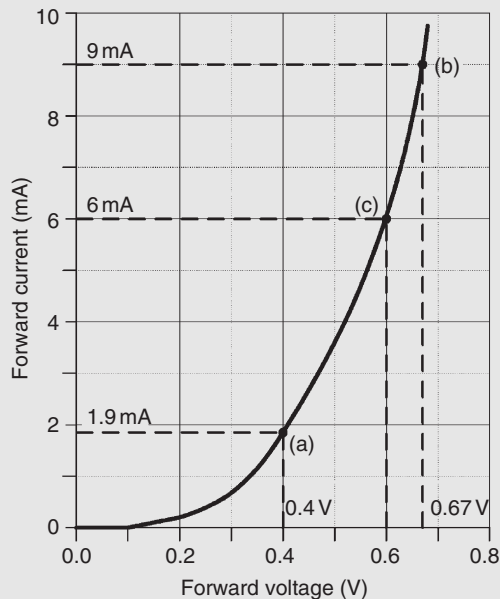

Figure 11.11
**Problem 4.** The forward characteristic of a diode is shown in Fig. 11.11. Use the characteristic to determine (a) the current flowing in the diode when a forward voltage of 0.4 V is applied, (b) the voltage dropped across the diode when a forward current of 9 mA is flowing in it, (c) the resistance of the diode when the forward voltage is 0.6 V and (d) whether the diode is a Ge or Si type.
- From Fig. 11.11, when  $V = 0.4$  V, **current flowing,  $I = 1.9$  mA.**